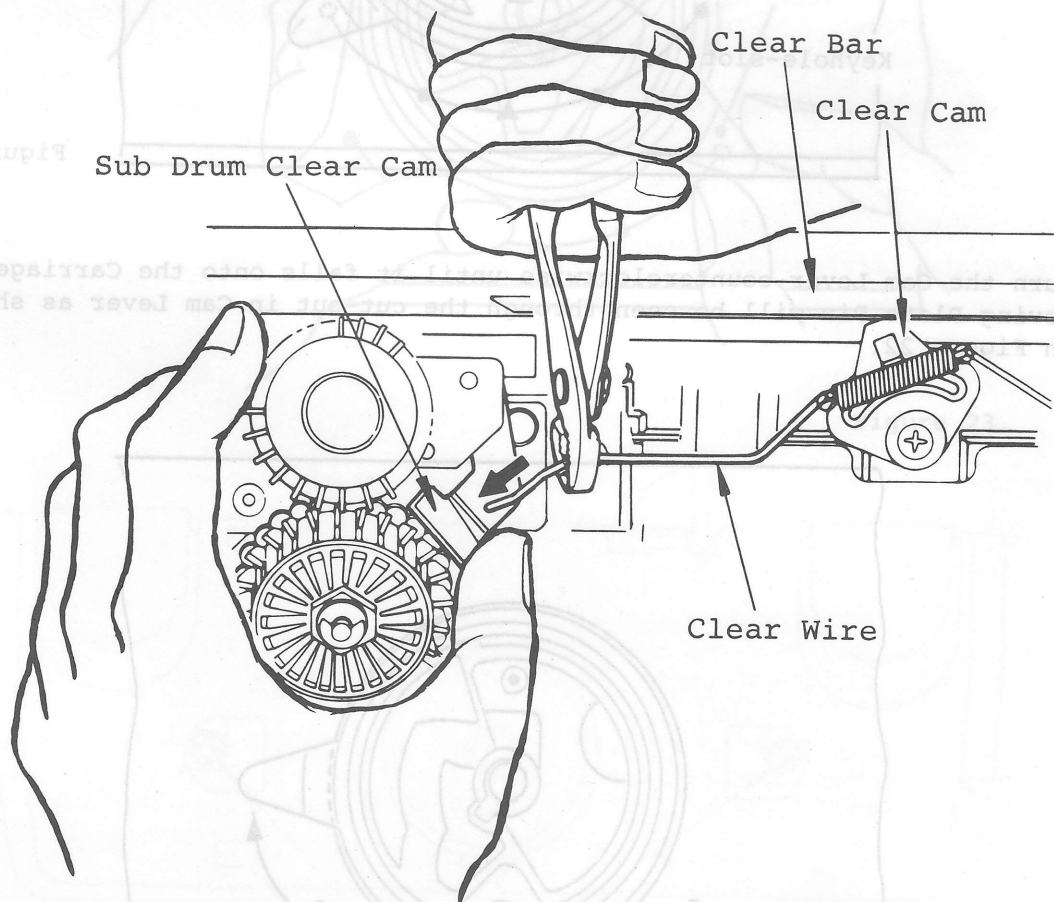

Figure 20.
1. position the Carriage around the center of Needle Bed so that Clear Cam is activated by Clear Bar as shown in Figure 20.